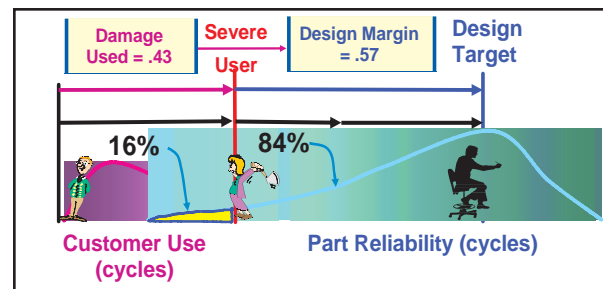

Figure 6: Capability of the Product and the Intended Use Environment
In this example, 43.3% of the lifetime available damage was used up. Therefore, the Design Margin (DM), defined as the difference between the capability of the product and in intended use environment, is equal to one minus 0.43 = 0.57. Figure 6 shows this relationship graphically [1].